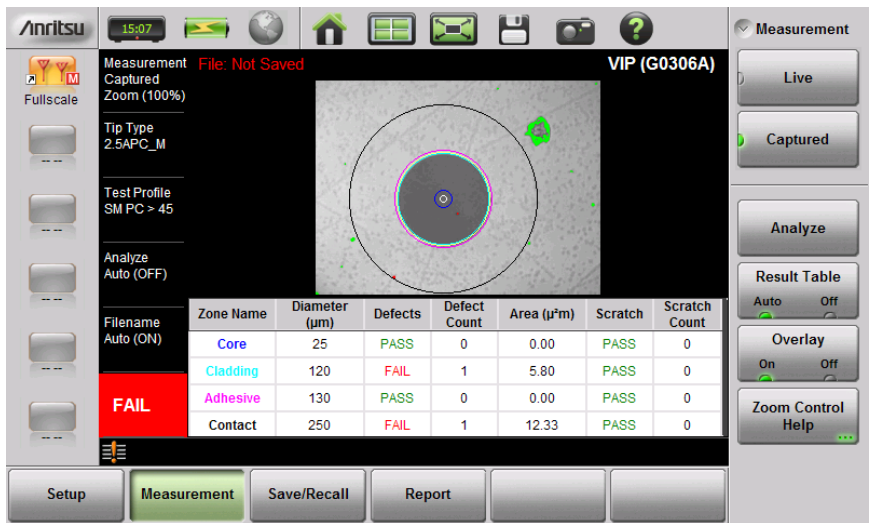

Figure 15-6. VIP Image Captured and Analyzed
- Press the Results Table submenu key to show or hide the detailed analysis results. See Figure 15-6. For each of the analysis areas, or zones (core, cladding, adhesive, contact), the table shows the count of scratches and contaminations or defects, and their Pass/Fail evaluation results. The table will not appear if there are no analysis results to display.